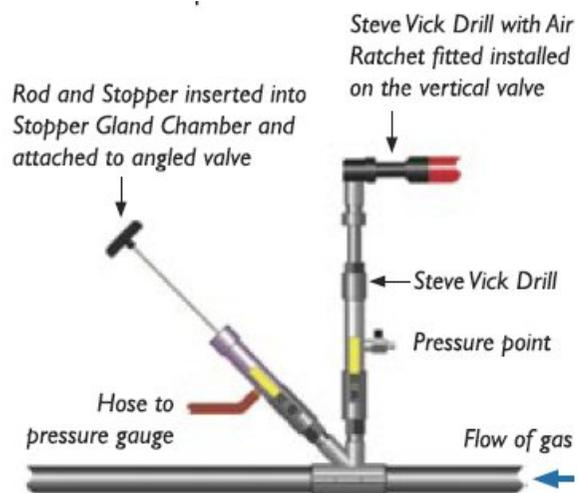

Figure 26- Service Isolator
a) Metallic service – Using Service Isolator for Low Pressure services up to 2” (see Figure 26)